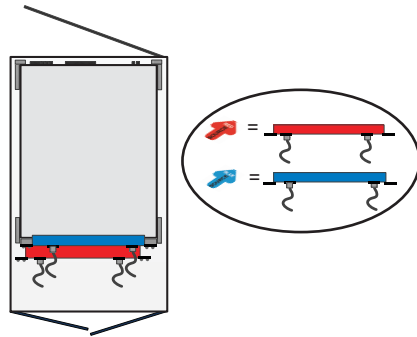

Figure 8. Horizontal Model Configurations
You can install one or two In-line Metered (IL) models horizontally (see Figure 8).